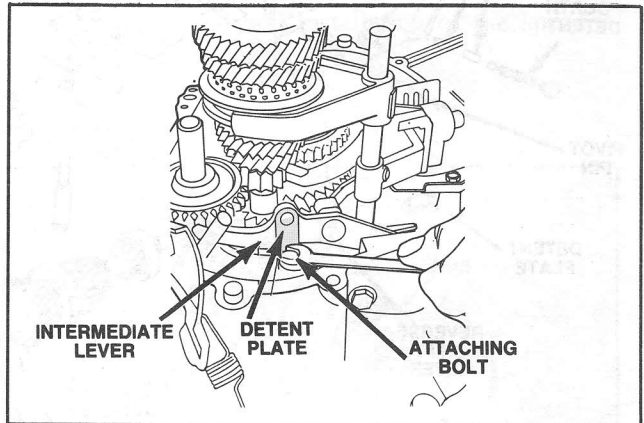

Figure 40 Detent Plate Location
10. Remove the reverse shift lever detent plate. (Figure 40).